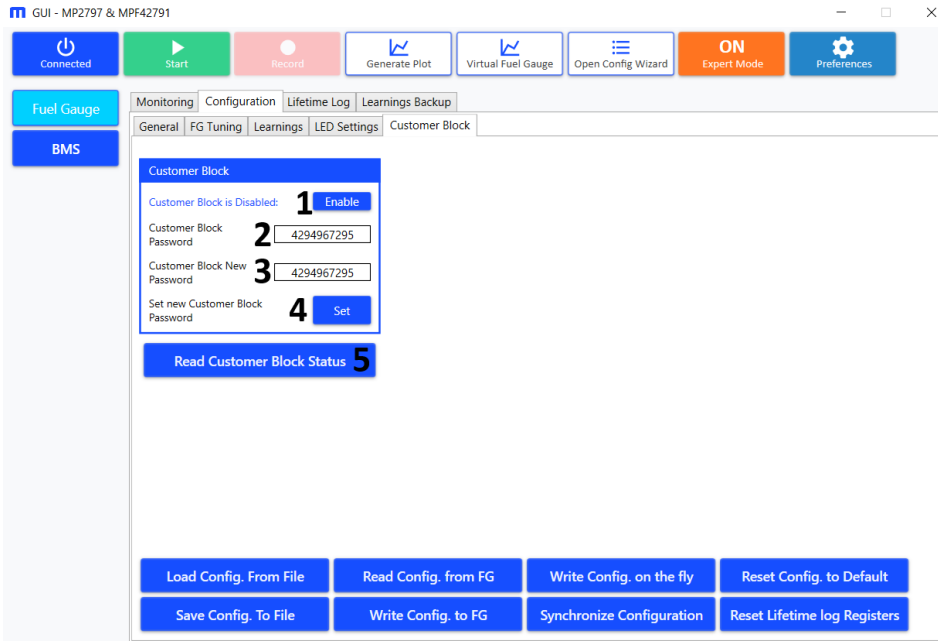

Figure 59: Customer Password Tab
2. The GUI should show the default Customer Block Password (denoted as “2” in Figure 59 on page 46).
3. To change the password, write the new pass into Customer Block New Password (3) (denoted as “3” in Figure 59 on page 46).
4. Ensure that the customer block is disabled, then click “Set” (denoted as “4” in Figure 59 on page 46).
5. If the “Set” button is disabled, click “Read Customer Block Status” (denoted as “5” in Figure 59 on page 46). If the operation was successful, a message reading “Successfully Set New Password” should appear (see Figure 59 on page 46).
6. To enable the customer block, click “Enable” (denoted as “1” in Figure 59 on page 46). Then enter the correct password. A message reading “Successfully completed operation” should appear; otherwise, this feature is blocked after three additional incorrect attempts.
7. To disable the customer block, click “Disable” (denoted as “1” (“Enable”) in Figure 59 on page 46). Then enter the correct password. A message reading “Successfully completed operation” should appear; otherwise, this feature is blocked after three additional incorrect attempts.